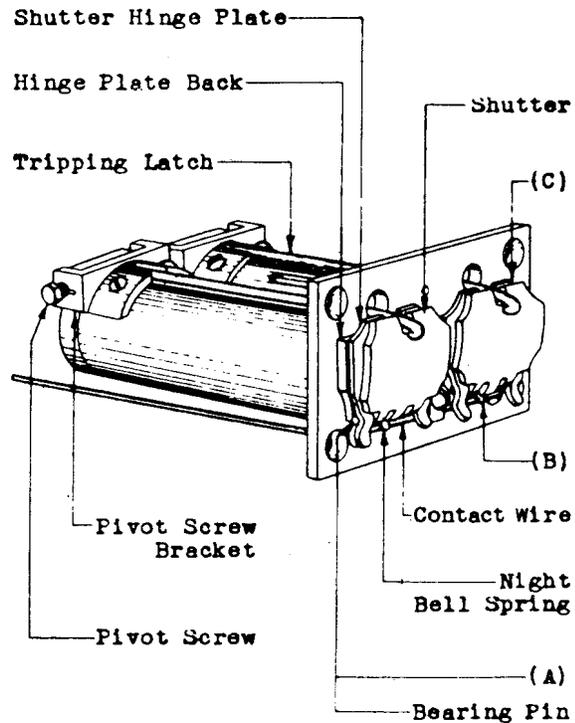

Fig. 3 - Shutter Movement, Night Bell Spring Clearance and Shutter Clearance Requirements on 35 Type Drops
2.07 Night Bell Spring Clearance - Fig. 3 (B): There shall be a clearance between the night bell spring and the contact wire, when the shutter is held by the tripping latch, of Min. .005" Gauge by eye.